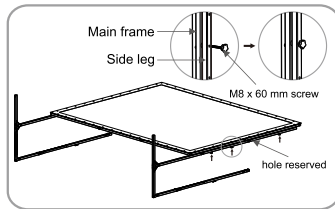

Figure 16
- It is suggested to install the main frame on a flat ground. Put the completed legs besides the main frame short side and fix it to the main frame according to required screen height by means of M8 x 53 mm screw ( Figure 16 - 17 ). (Note: Leave one hole on the main frame for the fastening of the M8 x 60 mm screw.)